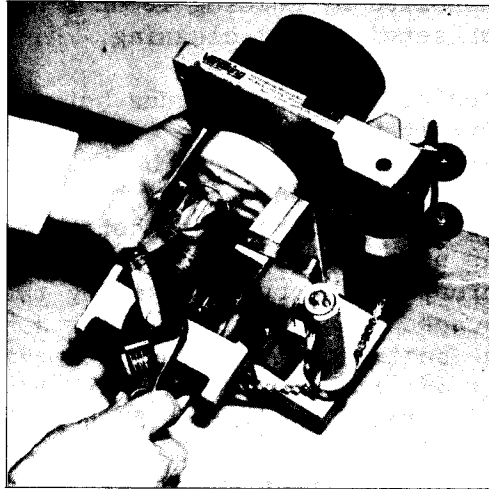

FIGURE 27
- Using an open wrench, place it on crank arm and bring piston down to lowest position possible. (FIGURE 27)